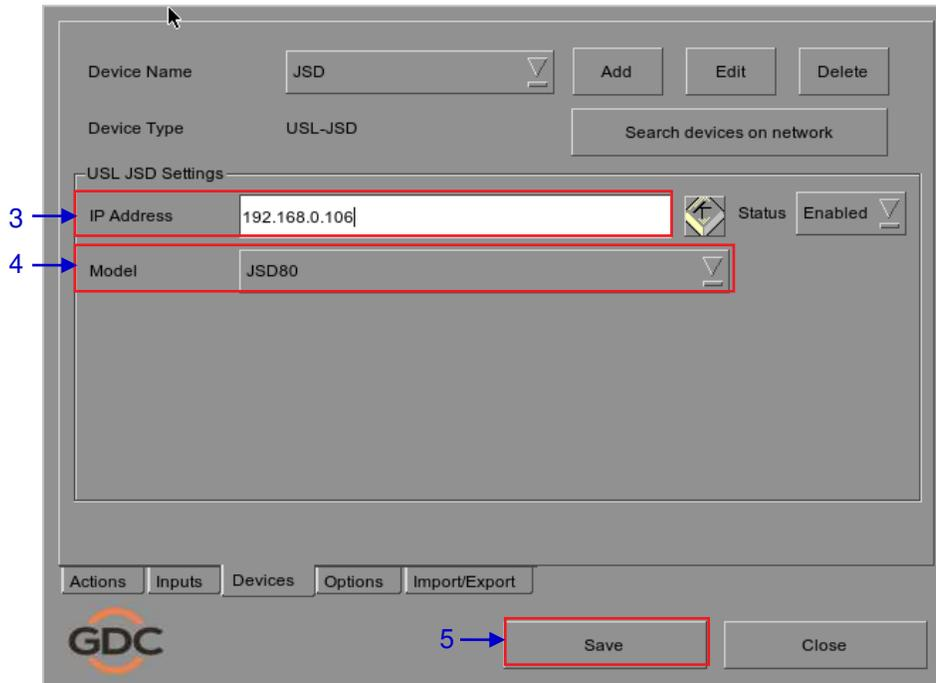

Figure 56 Automation settings for USL JSD device.
3. Enter the IP address of the USL JSD device (see Figure 56).